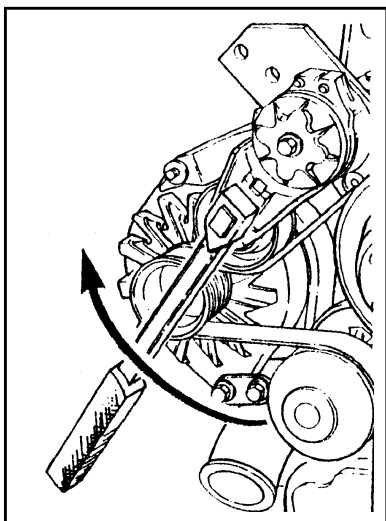
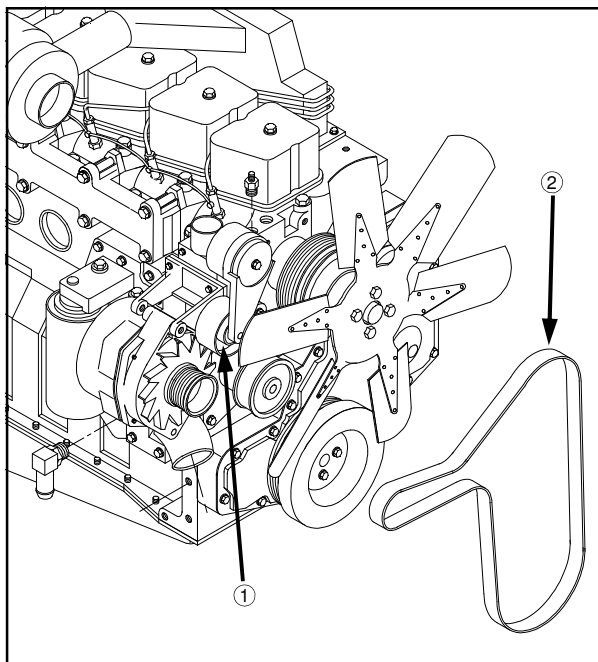

FIG 73-1
FIG 73-2
**REMOVAL** - Insert a 3/8 inch square ratchet drive (fig. 73-1) into the belt tensioner (fig. 73-2, item 1) and lift upward to remove the belt (fig. 73-2, item 2).